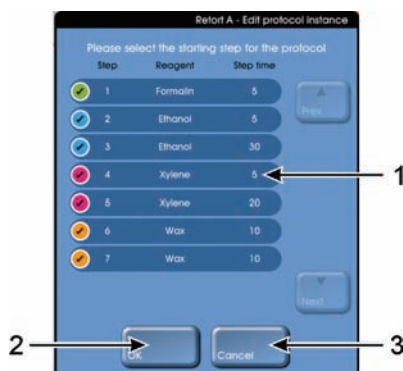

Figure 72: Edit protocol instance dialog box with step time cell (1), OK button (2) and Cancel button (3)
2. Select the step time cell of the step you wish to alter (see item 1 in Figure 72).
5. When you have made all step changes required, select the **OK** button from the Edit protocol instance dialog box (see Figure 72).
Or, if you wish to exit without saving the changes, select the **Cancel** button (see Figure 72).